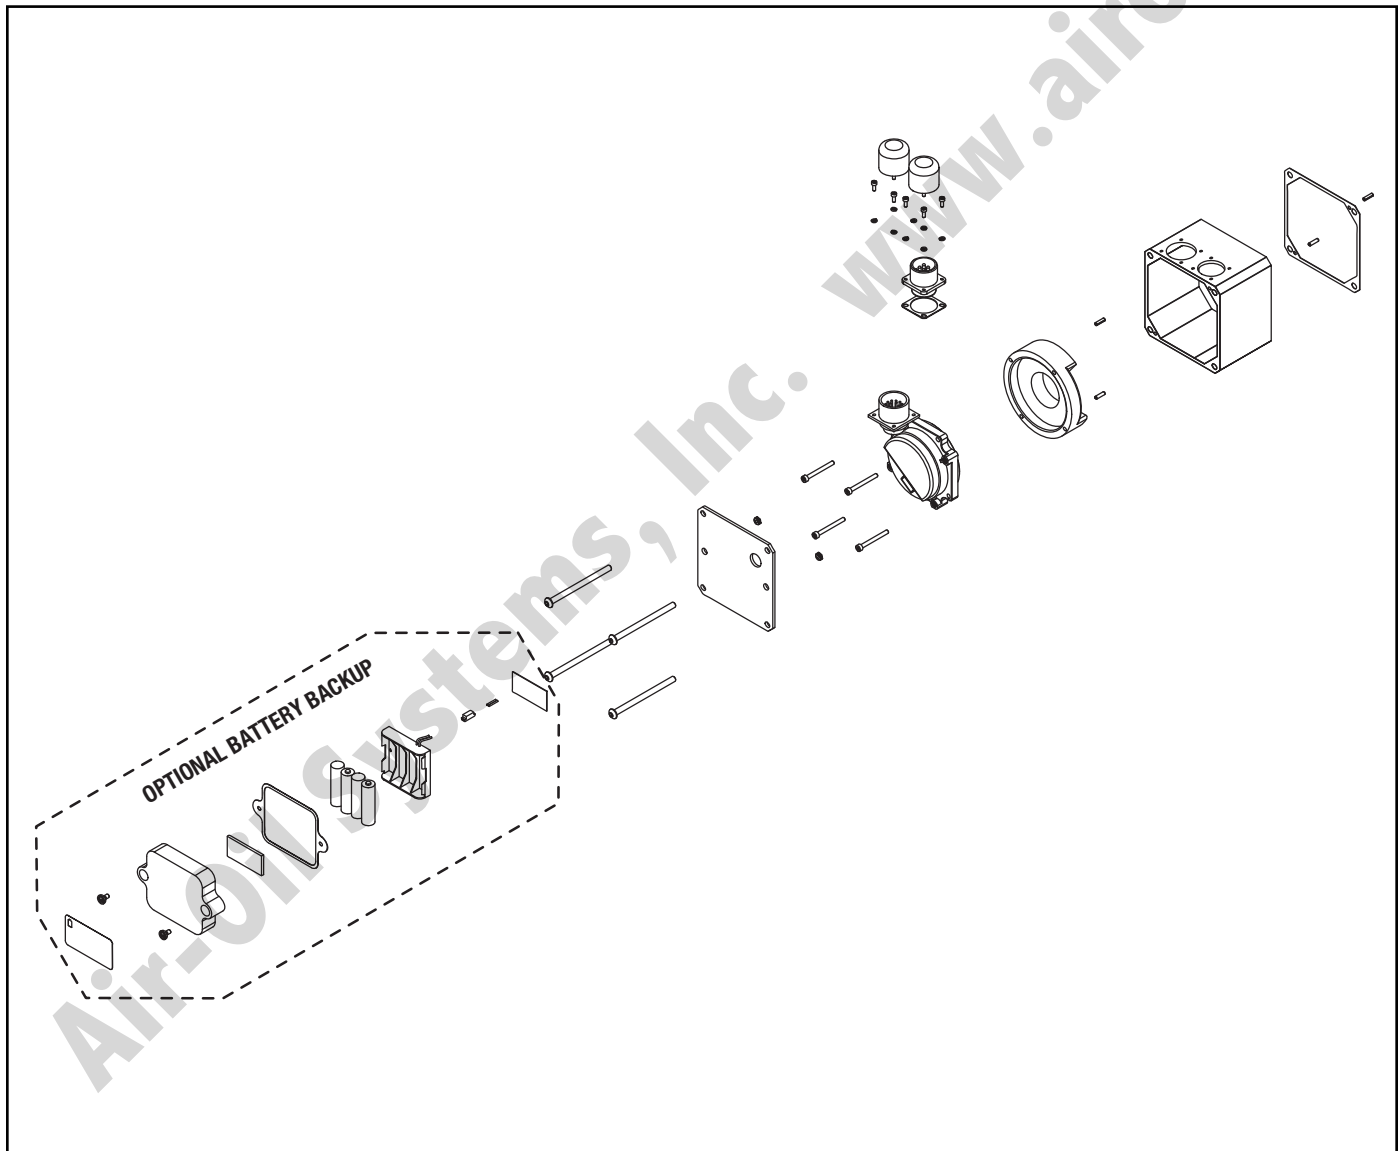

Figure 2.2: Exploded view of Fanuc Pulsecoder for SW44
- The only user serviceable component in the servo weld actuator is the Fanuc Pulsecoder. The pulsecoder is aligned to the servo weld actuator motor by an Oldham coupling. One segment of the Oldham coupling is pressed onto the servo weld actuator shaft during manufacturing of the actuator. Should this press fitting become altered, it is recommended that the actuator be returned to Tol-O-Matic for realignment. The remaining Oldham components assure appropriate motor phasing alignment between the Pulsecoder and motor windings through slotted connections. See figure 2.2 (page 4) for an exploded assembly view.